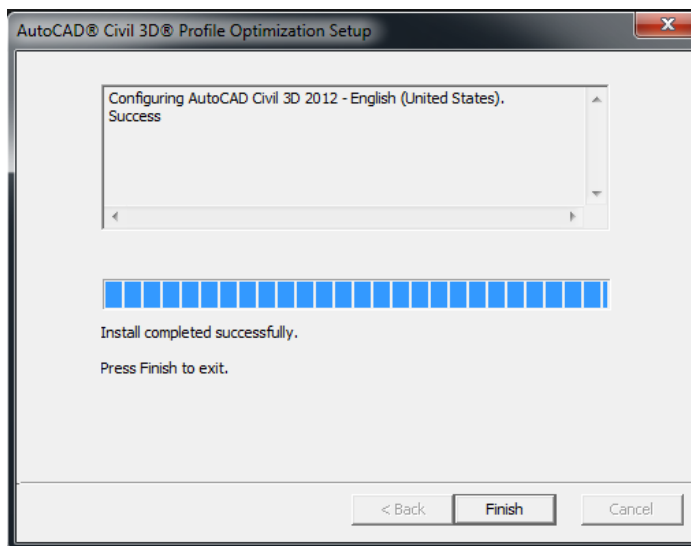

Figure 4: Finish install
5. When the install is completed, click Finish (see Figure 4).